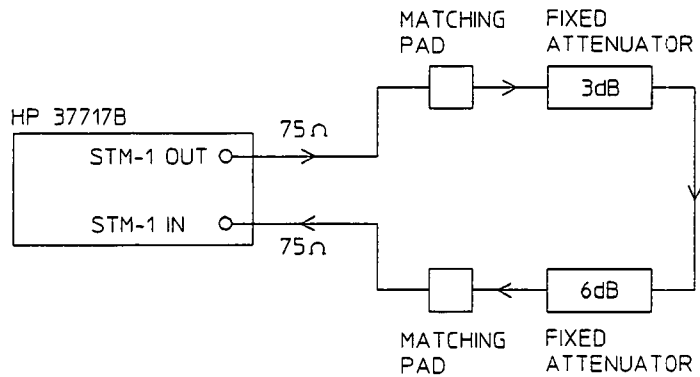

Figure 3-43. STM-1 Receiver Monitor Input
3. Connect up the equipment as shown in Figure 3-43 with the cable attenuator connected between STM-1 OUT and the Matching Pad.